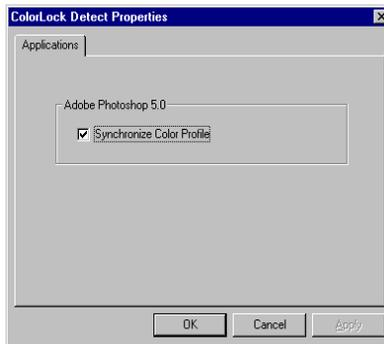

Figure 1-5 ColorLock Detect Properties Window (Synchronization On)
2. Click the **Synchronize Color Profile** box to enter a check mark, as shown in Figure 1-5 (the default entry is unchecked).